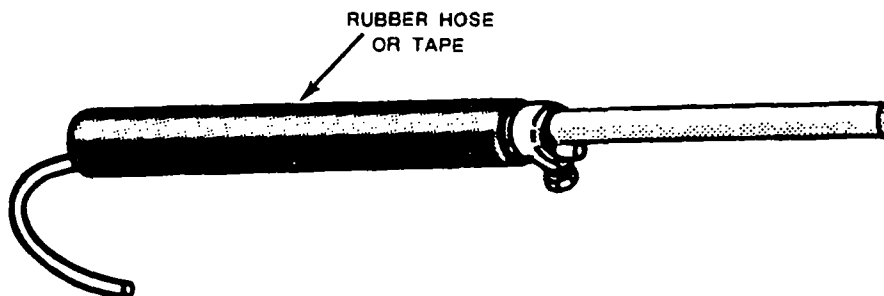

Figure E-2. Insulation Around Rod
Step 4 - Slide the 12-inch piece of rubber hose over the cable and ground rod so that the rod is approximately 1 inch from the end of the rubber hose. Fill the end of the hose with silicone sealant to provide insulation protection from the bare end of the rod (Figure E-2). If a rubber hose is not available, wrap electrical tape or pressure-sensitive tape around the clamp and the lower portion of the rod so that the tape is approximately 1/2-inch thick.